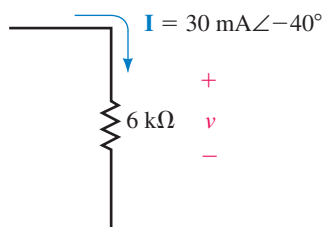

FIGURE 18-77
2. Repeat Problem 1 for the resistor of Figure 18-77.